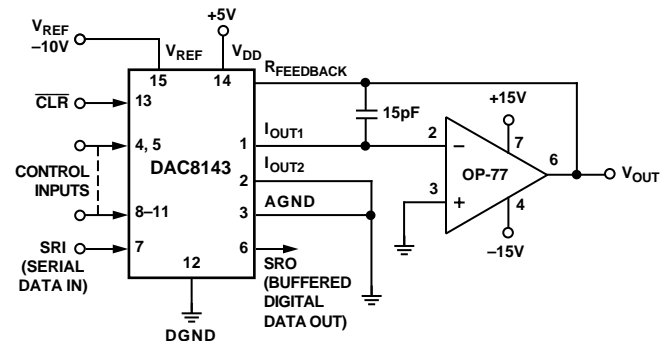

Figure 16. Unipolar Operation with High Accuracy Op Amp (2-Quadrant)
1. Phase compensation (see Figures 16 and 17).
The circuit shown in Figures 16 and 17 may be used with an ac or dc reference voltage. The circuit's output will range between 0 V and $+10(4095/4096)$ V depending upon the digital input code. The relationship between the digital input and the analog output is shown in Table II. The V_{REF} voltage range is the maximum input voltage range of the op amp or ± 25 V, whichever is lowest.
¹Nominal full scale for the circuits of Figures 16 and 17 is given by
²Nominal LSB magnitude for the circuits of Figures 16 and 17 is given by
The transfer function for the DAC8143 connect in the multiplying mode as shown in Figures 16 and 17 is:
In most applications, linearity depends on the potential of I_{OUT1} , I_{OUT2} , and AGND (Pins 1, 2 and 3) being exactly equal to each other. In most applications, the DAC is connected to an external op amp with its noninverting input tied to ground (see Figures 16 and 17). The amplifier selected should have a low input bias current and low drift over temperature. The amplifier’s input offset voltage should be nulled to less than $\pm 200 \mu V$ (less than 10% of 1 LSB).